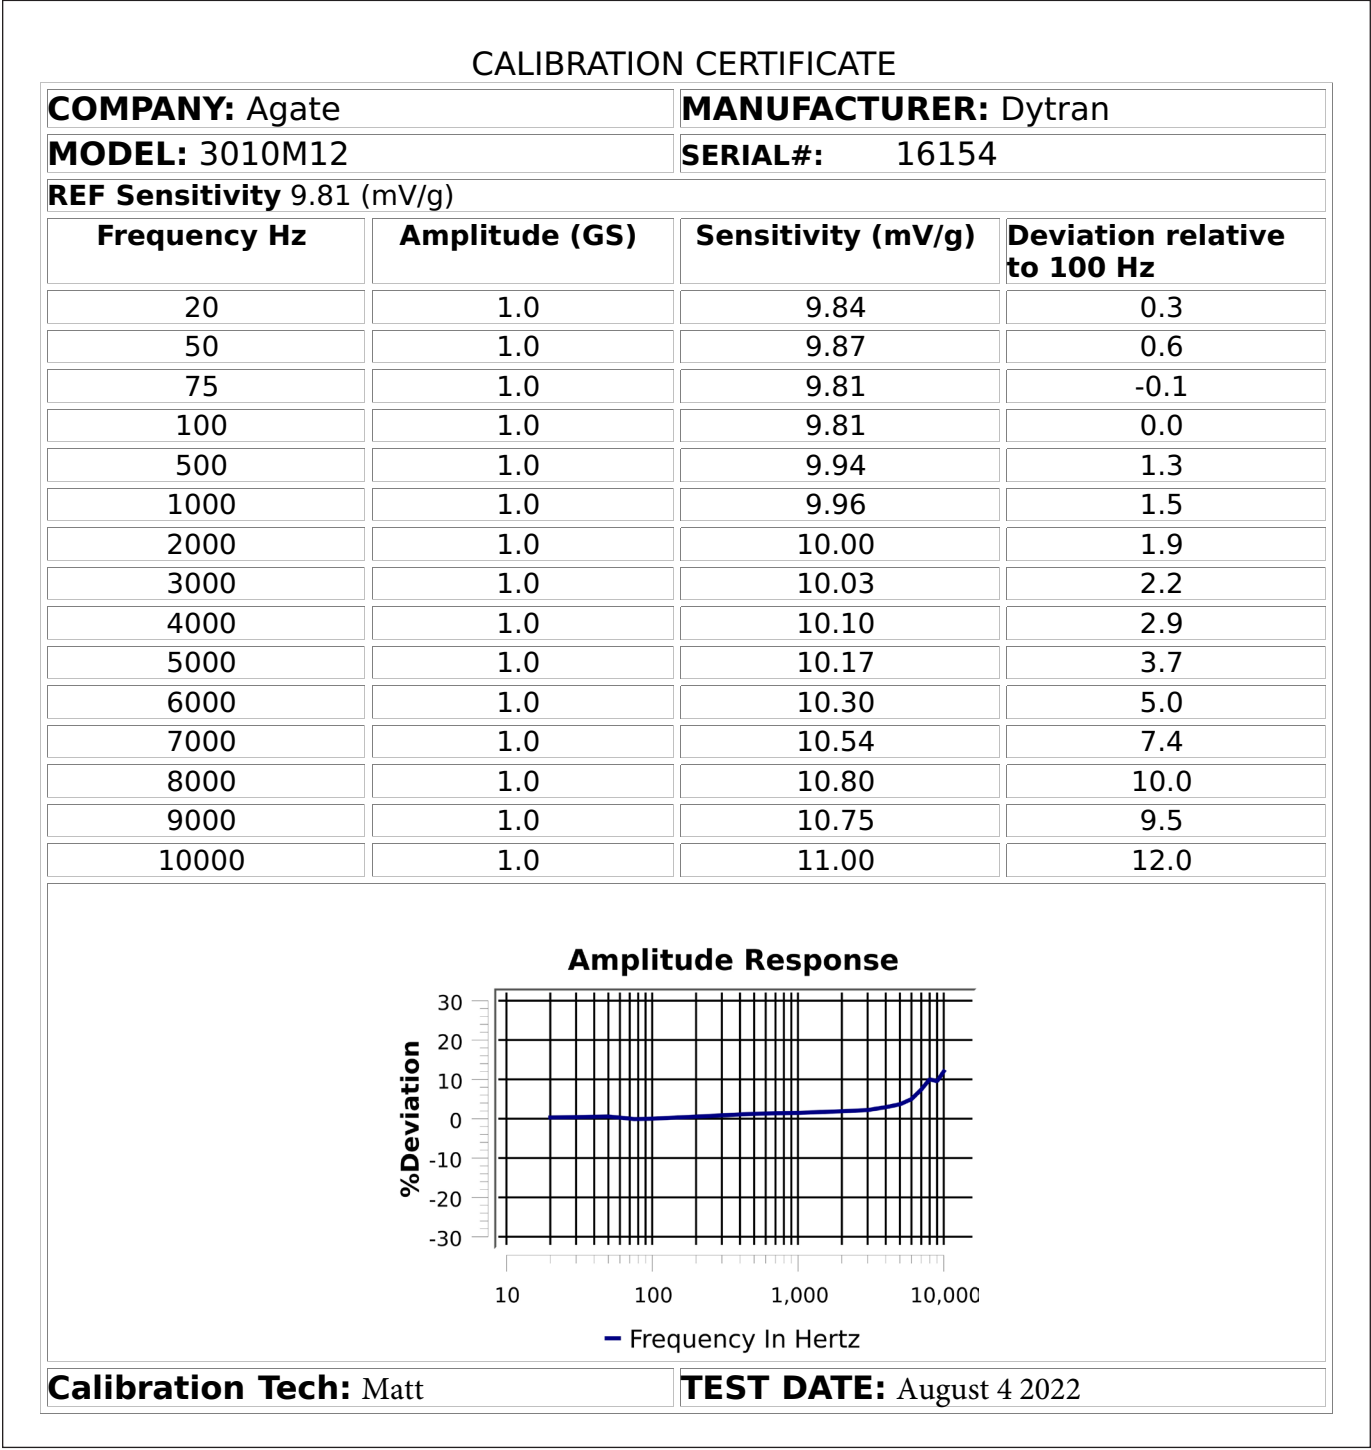

Figure 54. Example exported test record
- 4. Remove the USB drive and review the test(s) on your computer. See the example test record on the next page (Figure 54).
The sample certification shows the following information (Figure 54):